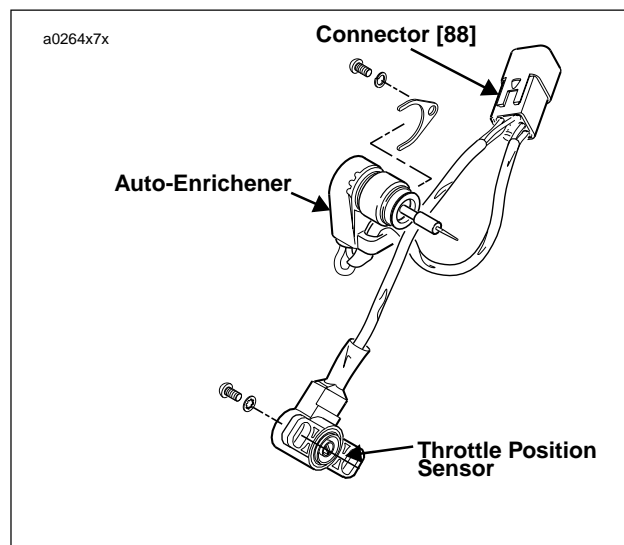

Figure 7-97. TP Sensor/Auto-Enrichener Connector [88]
16. See Figure 7-97. Disconnect TP Sensor/Auto-Enrichener connector [88] under frame backbone.